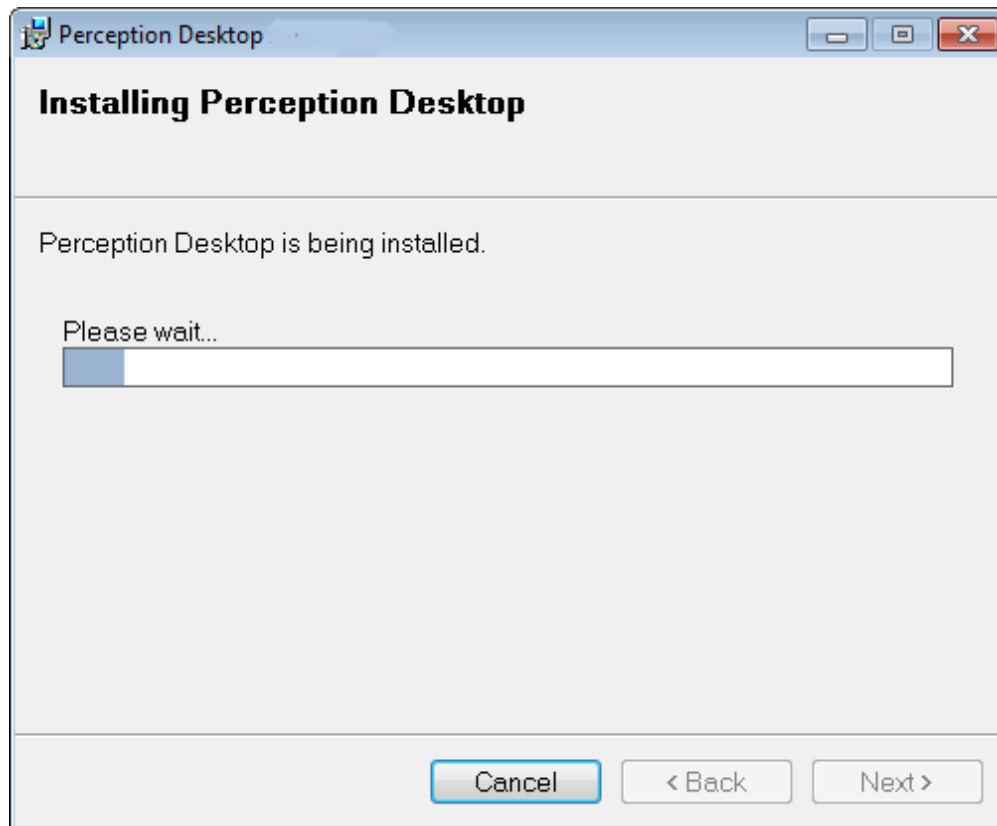

Figure 2-5: Installing Perception Desktop
2.2.5 If you click **Next**, then the installation commences and a progress bar indicates the progress so far as shown in Figure 2-5. The installation may take some minutes.